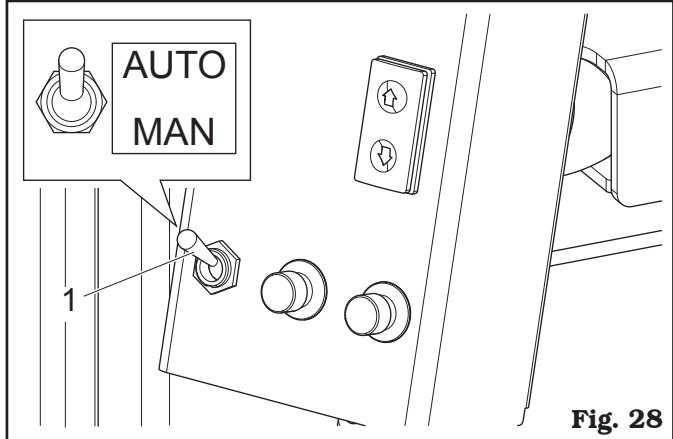

Fig. 28
For what concerns bead breaking, there are two different options, which can be activated through the selector (**Fig. 28 ref. 1**).